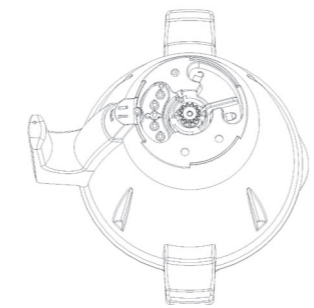

Fig. 1
2. In order to remove the knife, put the jar in a vertical position. Push the lever down anticlockwise to release the knife. (see Figure 1)